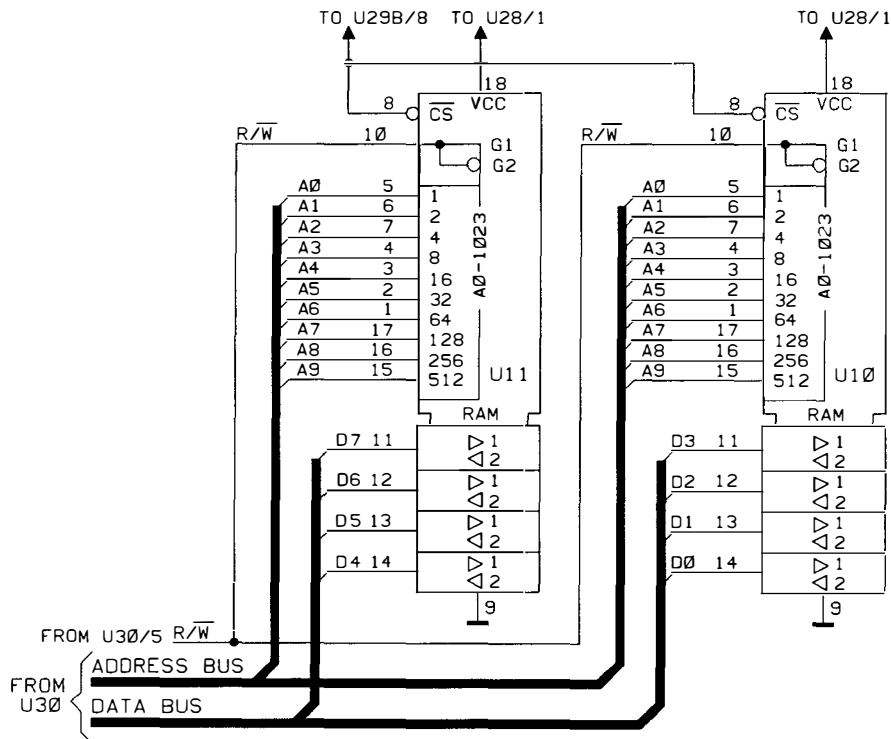

Figure B-3. 08116-66523: U10, U11 schematic
3. Figure B-3 shows the RAM circuit on the microprocessor board 08116-65523. Modify Chapter 10.7, Figure 10.7-5 accordingly.